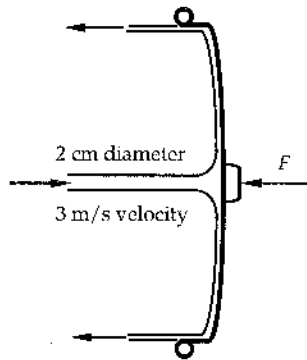

FIGURE P2.34
34. A garden hose is used to squirt water at someone who is protecting herself with a garbage can lid. Figure P2.34 shows the jet in the vicinity of the lid. Determine the restraining force F for the conditions shown.